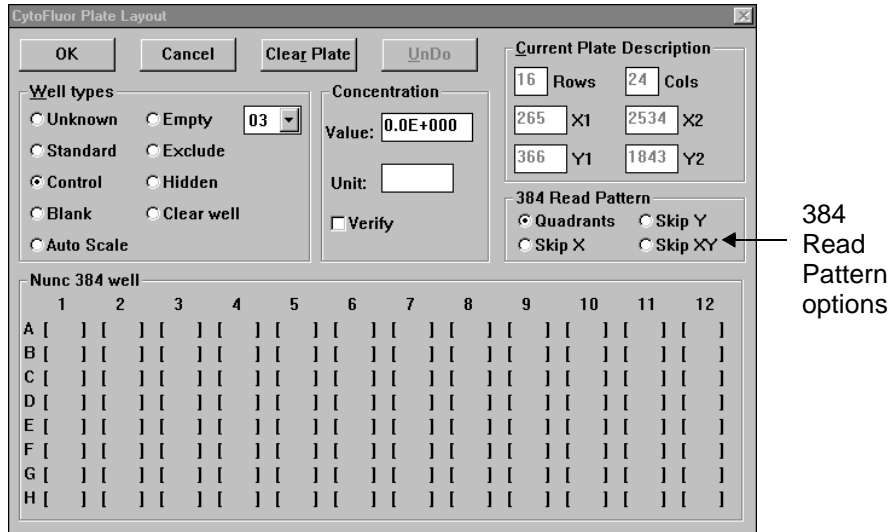

Figure 5-10 384 Read Pattern Options
2. Select **Layout** from the Plate menu on the main setup screen. The CytoFluor Plate Layout screen appears with the 384 Read Pattern options available (Figure 5-10).